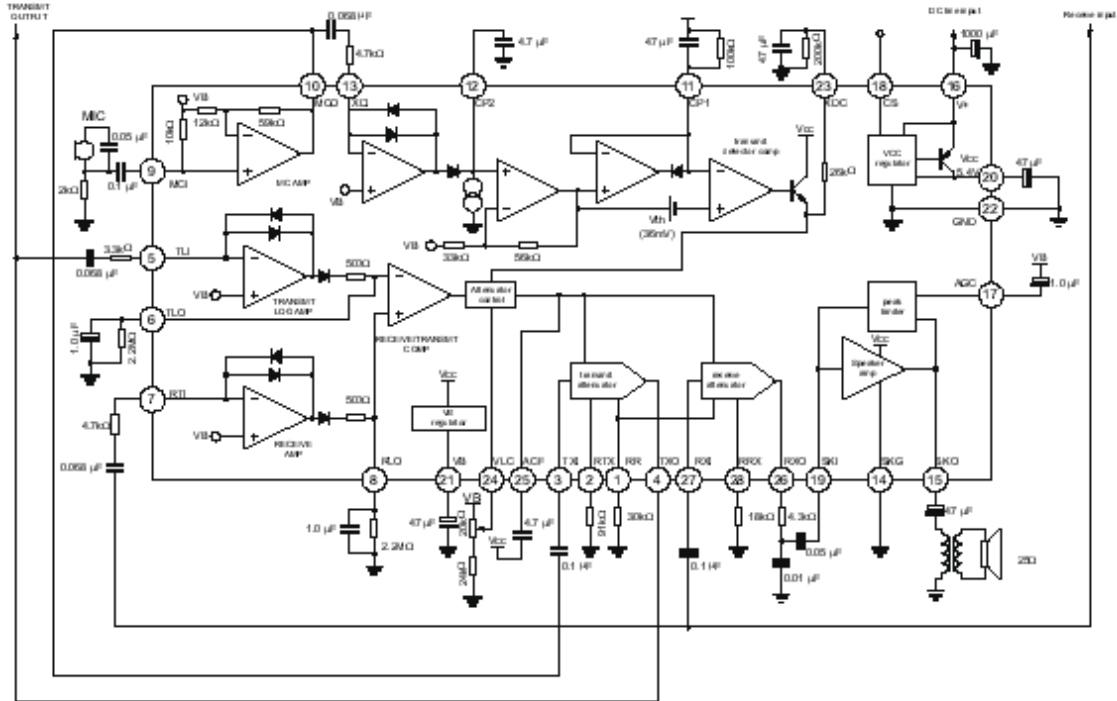

Fig 1 Test circuit
6. DESIGN GUIDELINES(REF TO FIG. 1)
The input impedance of the attenuators (at TXI and RXI) is typically 5.0 k Ω , and the maximum input signal which will not cause output distortion is 250 mVrms(707 mVP-P). The 4300 ohm resistor and 0.01 uF capacitor at RXO (in Figure 1) filters out high frequency components in the receive path. This helps minimize high frequency acoustic feedback problems. The filter's insertion loss is 1.5 dB at 1.0 kHz. The outputs of the attenuators are inverted from their inputs.
The transmit detector circuit, also known as the background noise monitor, distinguishes speech (which consists of bursts) from the background noise (a relatively constant signal). It does this by storing a voltage level, representative of the average background noise, in the capacitor at CP1(Pin 11). The resistor and capacitor at this pin have a time constant of approximately 5 seconds(in Figure 1). The voltage at Pin 11 is applied to the inverting input of the Transmit Detector Comparator. In the absence of speech signals, the noninverting input receives the same voltage level minus an offset of 36 mV. In this condition, the output of the comparator will be low, the output transistor turned off, and the voltage at XDC (Pin 23) will be at ground. If the Tx-Rx comparator is in the transmit position, the attenuators will be in the idle mode ($\Delta V_{acf} = 75$ mV). When speech is presented to the microphone, the signal burst appearing at XDI reaches the noninverting input of the transmit detector comparator before the voltage at the inverting input can change, causing the output to switch high, driving the voltage at XDC up to approximately 4 V. This high level causes the attenuator control block to switch the attenuators from the idle mode to the transmit mode (assuming the Tx-Rx comparator is in the transmit mode).